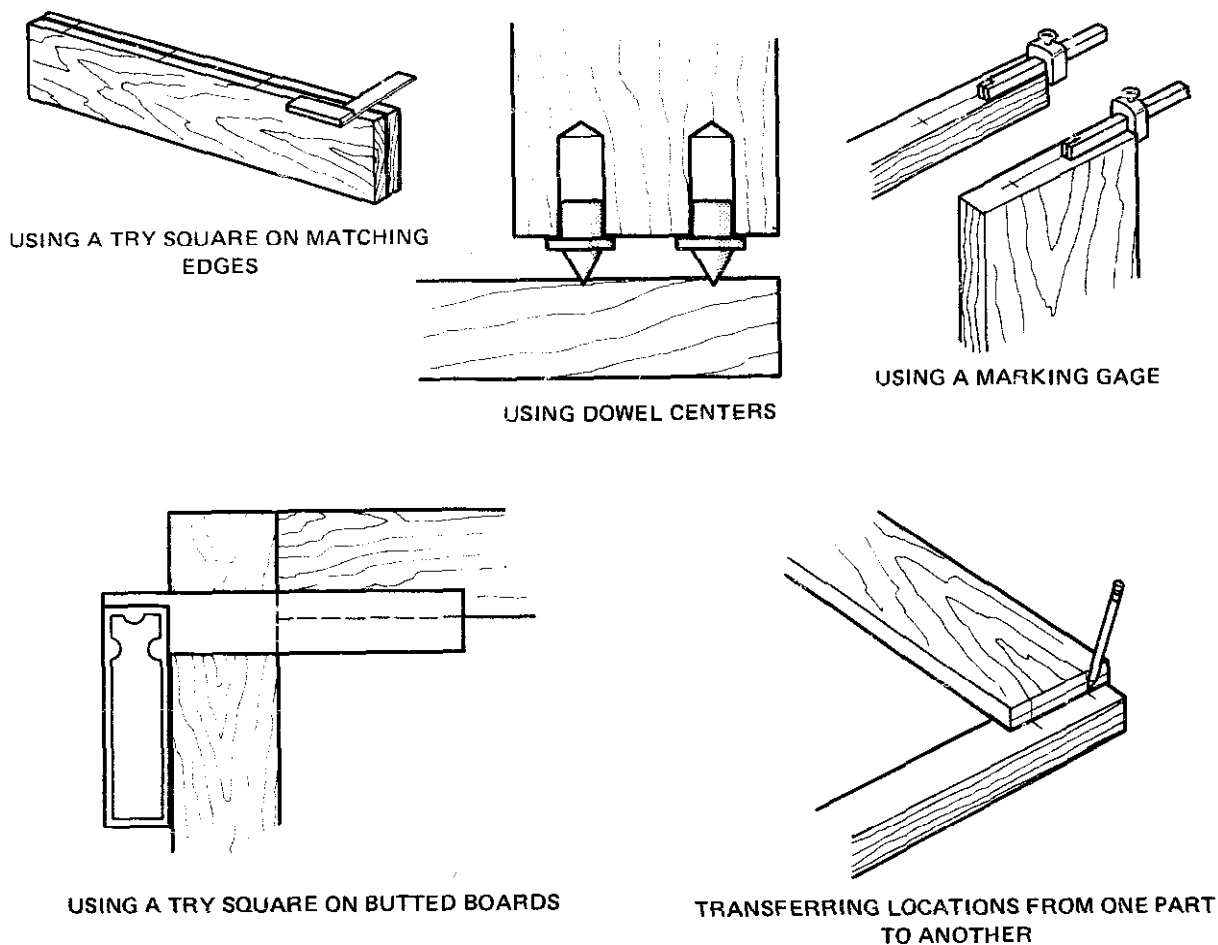

Fig. 12-41 Techniques for laying out the dowel holes.
2. Lay out the location of the dowels. A few layout methods are shown in figure 12-41.